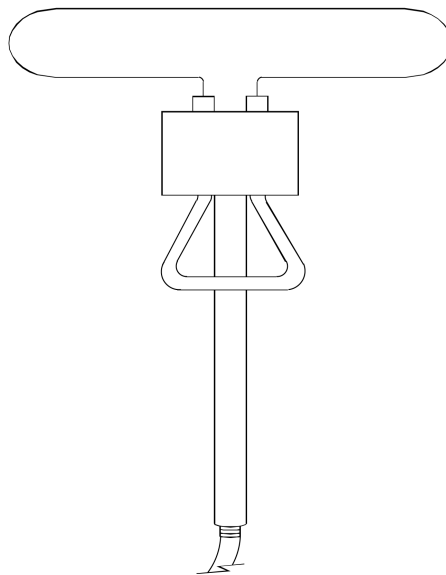

Figure 12-8. Set-up of a folded dipole antenna with balun
- ☐ 3. Select the folded dipole connector **with** balun and the folded wire, then set up a folded dipole antenna, as shown in Figure 12-8.